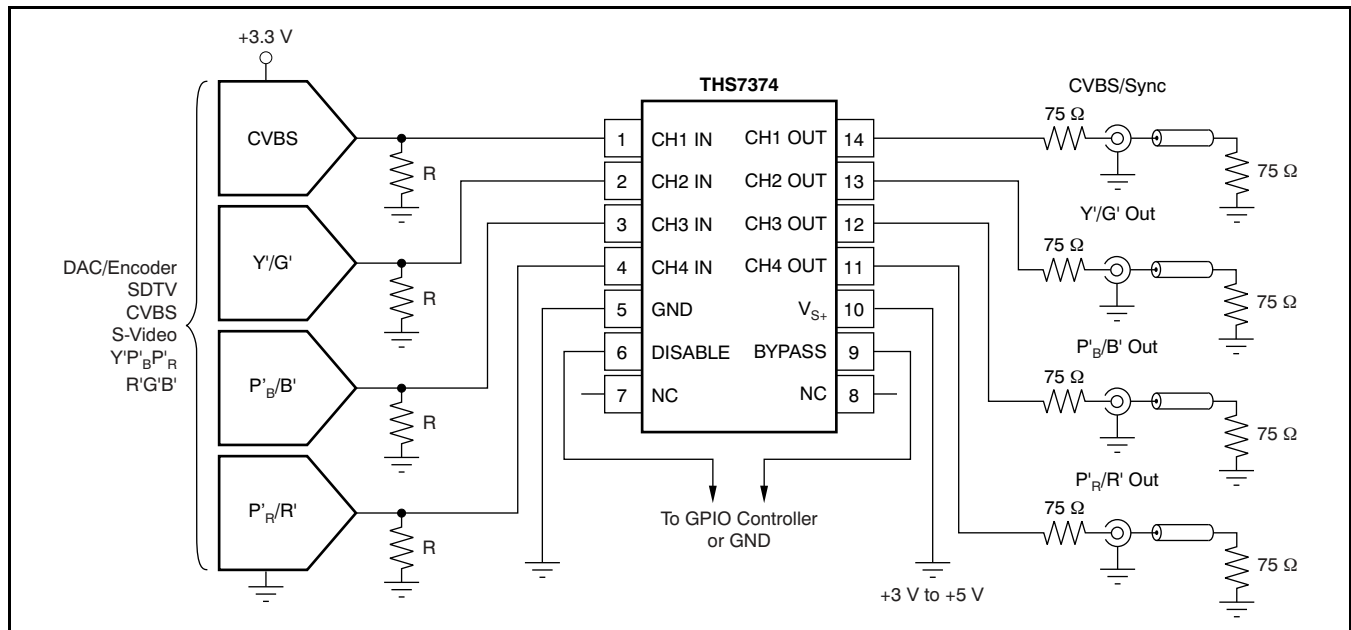

Figure 57. Typical SDTV CVBS/ $Y'P'_BP'_R$  Inputs from DC-Coupled Encoder/DAC with DC-Coupled Line Driving
A typical application circuit that uses the THS7374 as a video buffer is shown in Figure 57. It shows a DAC or encoder driving the input channels of the THS7374. One channel is a composite video (CVBS) channel of a standard definition (SD) video system. The other channels are the component video  $Y'P'_BP'_R$  (sometimes labeled  $Y'U'V'$  or incorrectly labeled  $Y'C'_BC'_R$ ) signals of a 480i or 576i system. These channels could easily be the s-video  $Y'/C'$  channels or the  $R'G'B'$  channels of a SCART system.